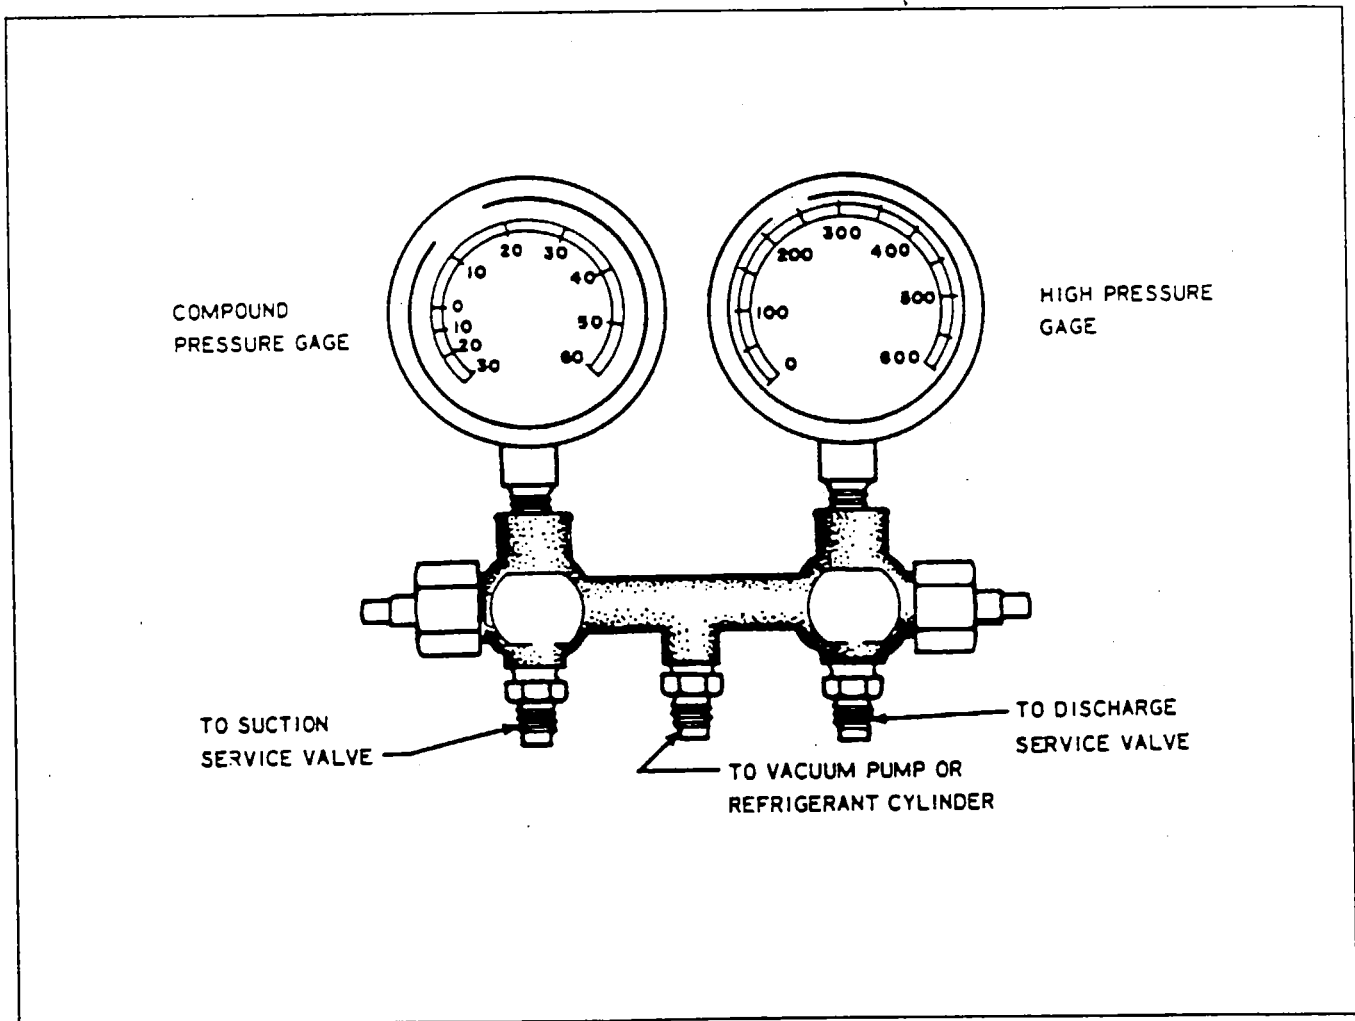

Figure 21-21. Test Gauge and Manifold Set
The proper testing and diagnosis of the air conditioning system require that a manifold gauge set be attached into the system. This set consists of two gauges mounted to a manifold. One gauge is a high pressure gauge used in the discharge side of the system. The other is a low pressure gauge used in the suction side of the system. The manifold is a device having fittings for both gauges and connection hoses with provisions for controlling the flow of refrigerant through the manifold. (See Figures 21-21 and 21-22.)
Cracking the hand valve, in the counterclockwise direction, opens the system to the middle service port of the manifold set. This is desirable only when it is necessary to let refrigerant out or into the system. (Refer to Figures 21-21 and 21-22.)
3. The high and low manifold hand valves should be in the closed position. (Refer to Figures 21-21 and 21-24.)